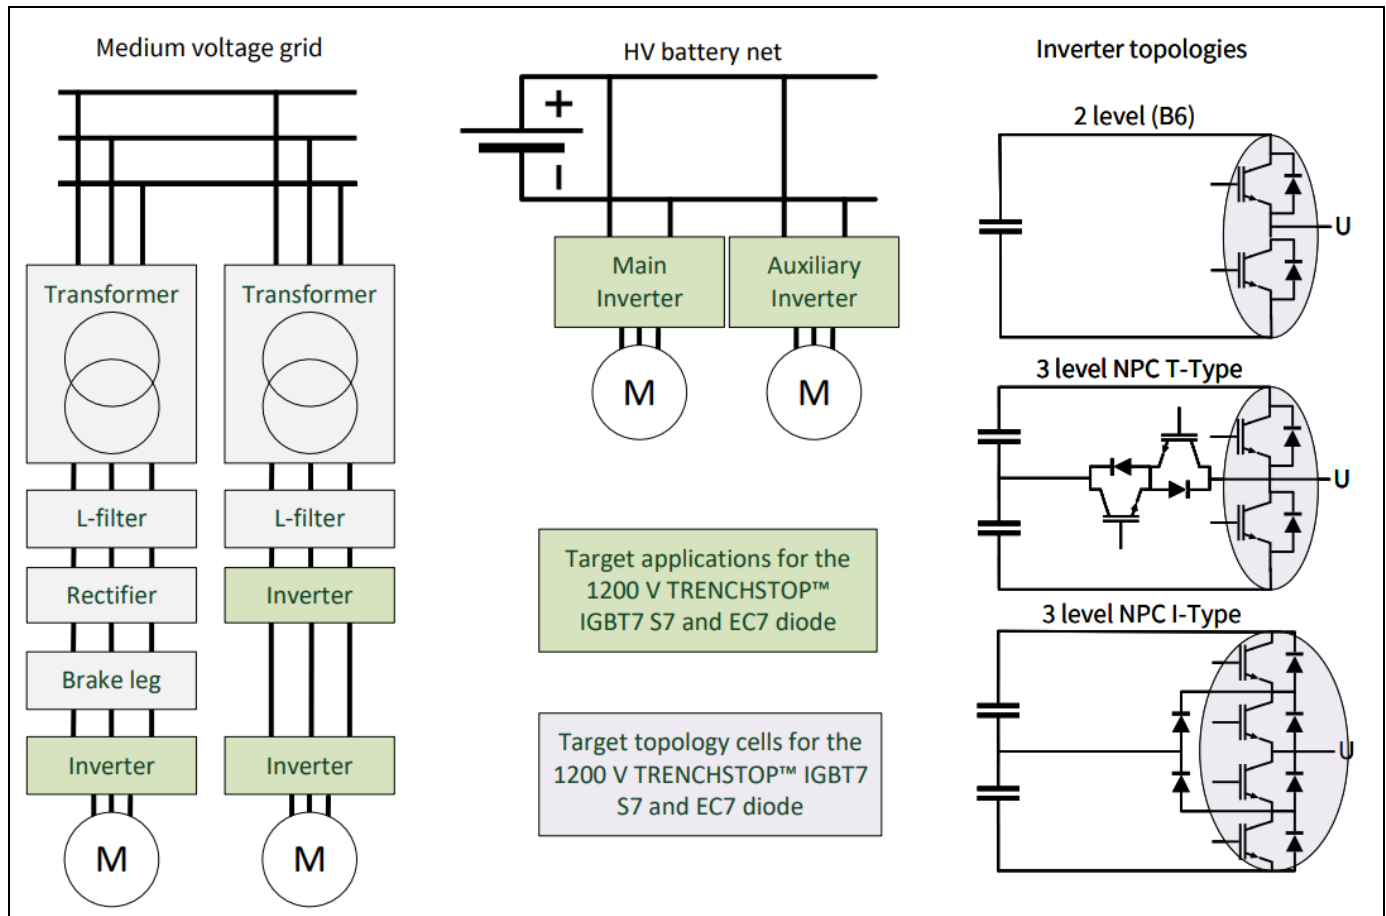
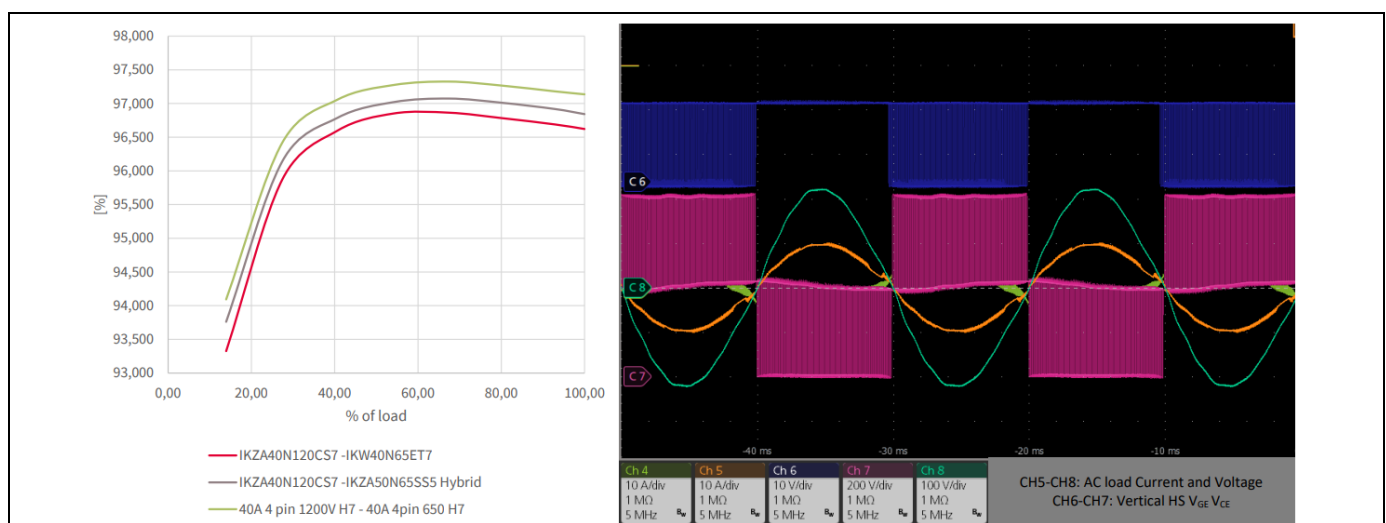

Figure 3 Target applications and topologies in grid and battery supplied nets
Figure 15 3-phase, 3-level T-type DC-AC converter operation and efficiency, at 800 V_{DC} cos(φ)=1, m_{index}=1, f_{ele}=50 Hz
As mentioned above, target applications for the discrete through-hole 1200 V TRENCHSTOP™ IGBT7 S7 and EC7 diode include three-phase converters with electrical machines as loads, see Figure 3. Different machines require different variable frequency drives (VFD), each having specific requirements in terms of power, constant-power speed range (CPSR), switching frequency, controllability, overload conditions, and short-circuit withstand time. Usually, low-voltage (400 V_{RMS} to 690 V_{RMS} AC supply) induction machines (IM) and permanent magnet synchronous motors (PMSM) are driven with a standard two-level (B6) topology, however, further improvement in drive efficiency (at the same dV/dt) can be achieved via the 3-level, T-type topology. The 3-level, T-type topology, with 1200 V components in the vertical switching cells, requires 600-650 V rated devices in the horizontal switching cells, finding the perfect fit in the Infineon topology solution 650 V/ 1200 V TRENCHSTOP™ IGBT7 (IKXXN120CS7 family + IKWXX65ET7 family). Further details and application test results of the above-mentioned solutions can be found in the “Application Test” section.
Figure 3 shows another potential application in a 3-phase bi-directional AC-DC converter. It is possible to replace the diode-based rectifier supply unit with a regenerative AC-DC converter in 3-phase, grid-supplied VFDs (no need to dissipate power with the braking leg – the power fed back to grid). Additionally, the bi-directional approach improves the current total harmonic distortion (THDI) absorbed from the grid (~ factor of 10 with respect to the 6-pulse diode rectifier). Last but not least, it improves the immunity of the DC voltage bus against short-term fluctuations in the mains power supply voltage.
Several applications require an interface to the grid, e.g. active front end, which focuses particularly on the current total harmonic distortion (THD). These applications generally use different filters (passive component-based) to meet the increasing demands for drawing power from the grid or feeding power into it. Often filters are bulky inductors, so the need for compact, power electronic-based converters is pushing the limits of switching frequency to reduce the size of the filters. Another way to meet the challenge of passive size reduction is to use multilevel converters, such as the neutral-point-clamped T-type (see Figure 3). Moreover, 3-level converters are beneficial for VFD, since they offer the possibility of gaining dynamic performance at the same dV/dt , and reducing the current ripple by half at the same switching frequency, i.e., increased machine efficiency. The 1200 V TRENCHSTOP™ IGBT7 S7, especially the 4-pin version IKZA40N120CS7 combined with the 650 V TRENCHSTOP™ IGBT7 T7, is a good choice for short-circuit rated devices. Moreover, further improvements in dynamic turn-on can be achieved using the CoolSiC™ hybrid discrete, the TRENCHSTOP™ 5 S5 IGBT. Figure 15 shows the waveforms and results in efficiency, compared to the non-short-circuit rated fast IGBTs, such as the 1200 V and 650 V TRENCHSTOP™ IGBT7 H7.